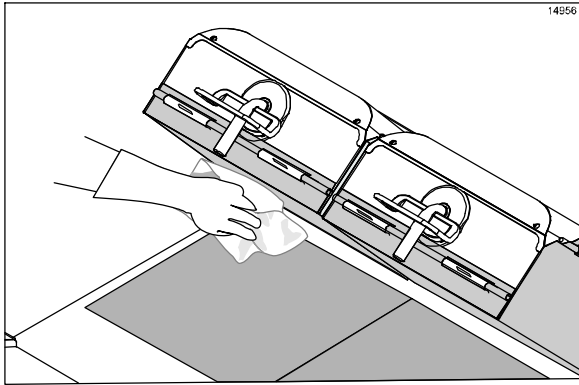

Figure 43
11. Use the grill cloth dampened with grill cleaner to clean the exposed surfaces of the upper and lower release sheets. (See Figure 43.)